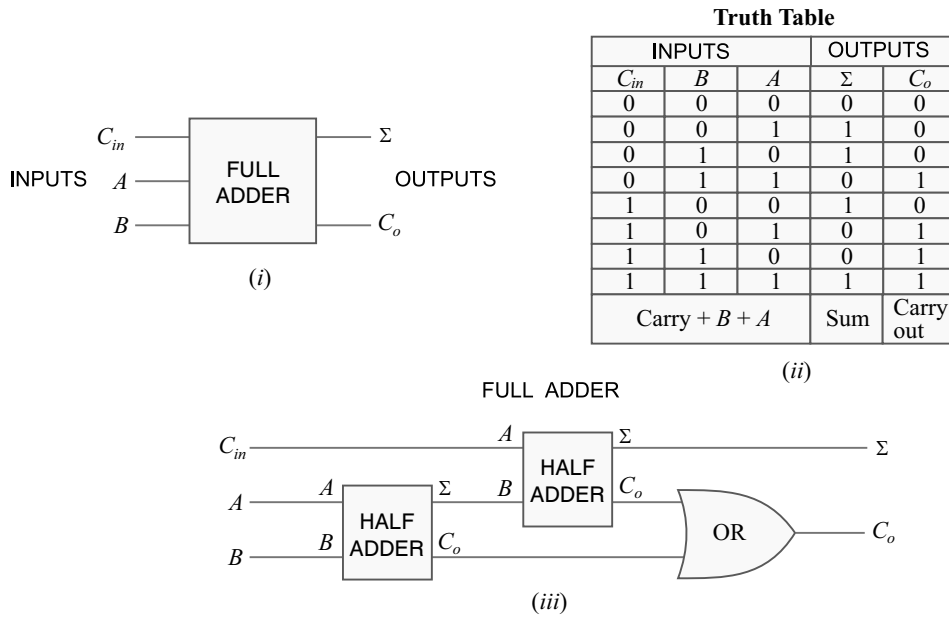

Fig. 24.77
(ii) **Full Adder (FA).** A full adder adds two binary bits plus a carry input ( $C_{in}$ ) to produce the sum ( $\Sigma$ ) and carry-out ( $C_o$ ) outputs. Fig. 24.77 (i) shows the block diagram of a full adder. It is formed by using two half adder circuits and an OR gate as shown in Fig. 24.77 (iii). Note the carry-in input which requires the extra half adder. The output of the OR gate forms the carry-out ( $C_o$ ) output.
The full adder has three inputs :  $C_{in}$ ,  $A$  and  $B$ . These three inputs must be added to get the  $\Sigma$  and  $C_o$  outputs. Fig. 24.77 (ii) shows the truth table for a full adder. It shows all the possible combinations of  $A$ ,  $B$  and  $C_{in}$ . The full adder is used for binary addition in all places except the 1s place which means 2s, 4s, 8s etc.